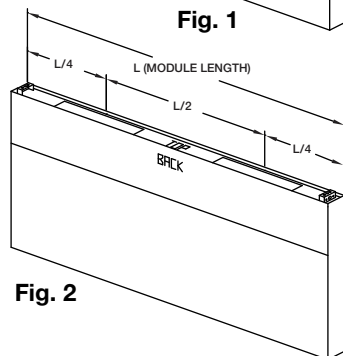

Fig. 2
3. If the back supply plenum is to have two openings, cut openings such that they are centered at $L/4$ from each end of the plenum. (Fig. 2)